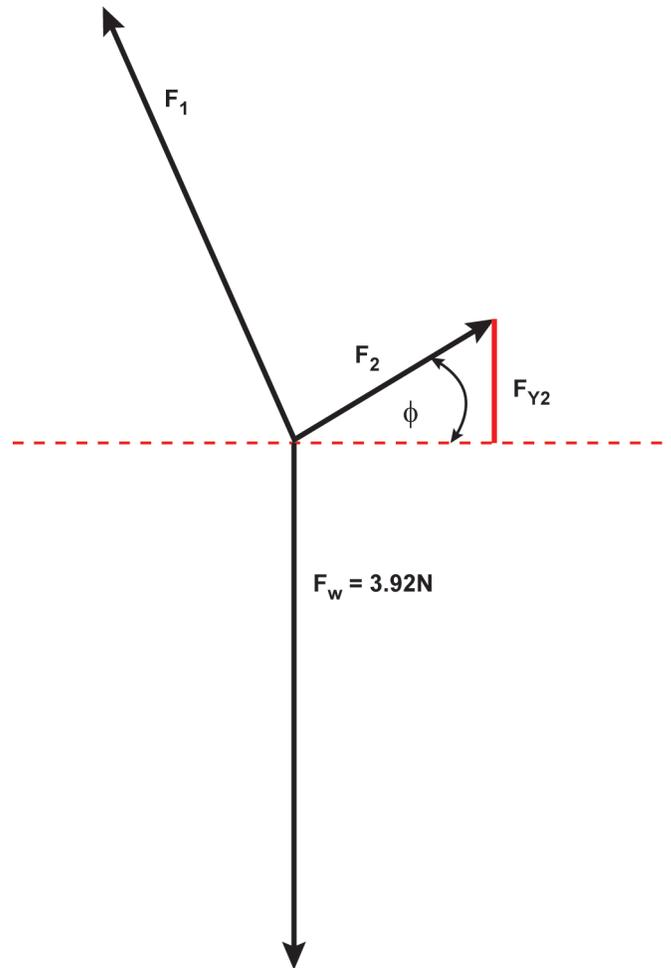

Figure 9
- 2. Figure 9 shows the vertical component of F_2 . The vertical component of F_2 can be written as: